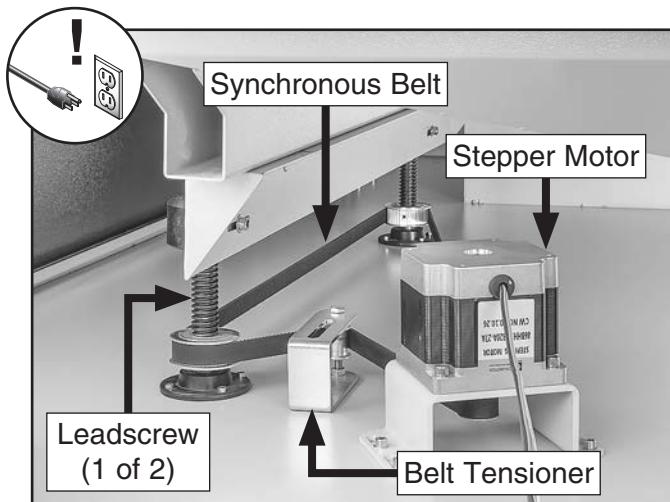

Figure 66. Left Z-Axis table lift components.
3. Use stiff brush to loosen existing build-up and vacuum all contaminants from leadscrews, synchronous belts, belt tensioners, and stepper motors (see **Figures 66–67**).
4. Use clean shop rags to protect synchronous belts from cleaning fluids and lubricating oil (see **Figures 66–67**).